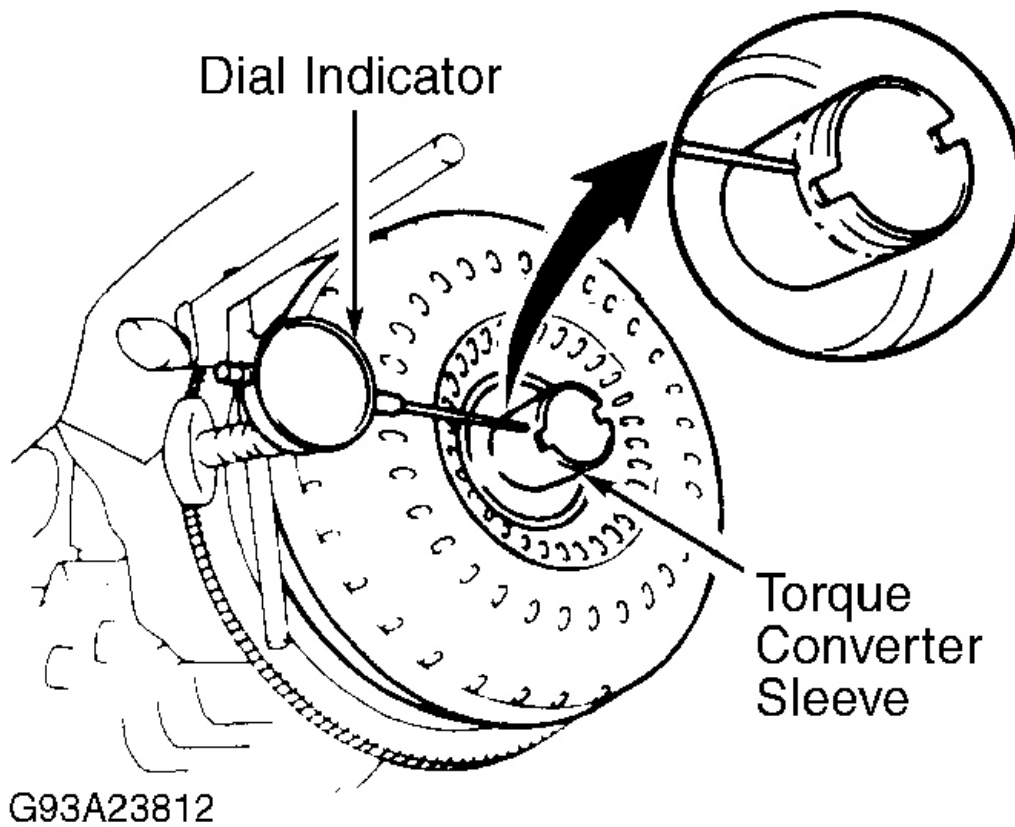

Fig. 6: Checking Converter Sleeve Runout
1. Temporarily mount torque converter to drive plate. Mount a dial indicator with needle resting on converter sleeve. See **Fig. 6**. Rotate converter. If runout exceeds .012" (.30 mm), ensure converter is properly mounted to drive plate.